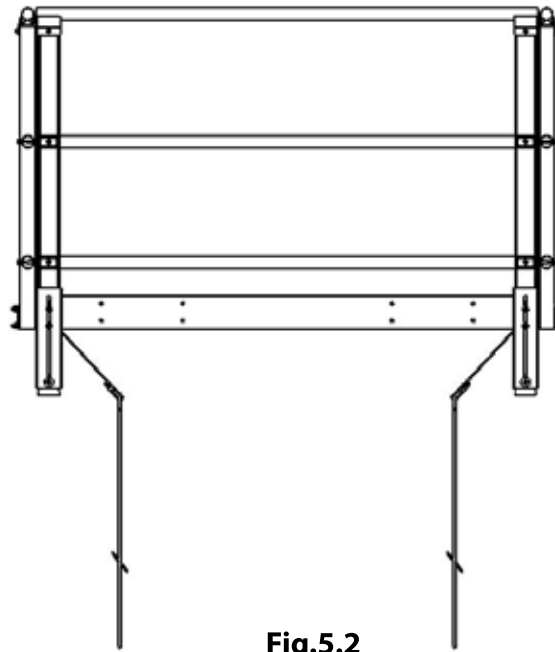
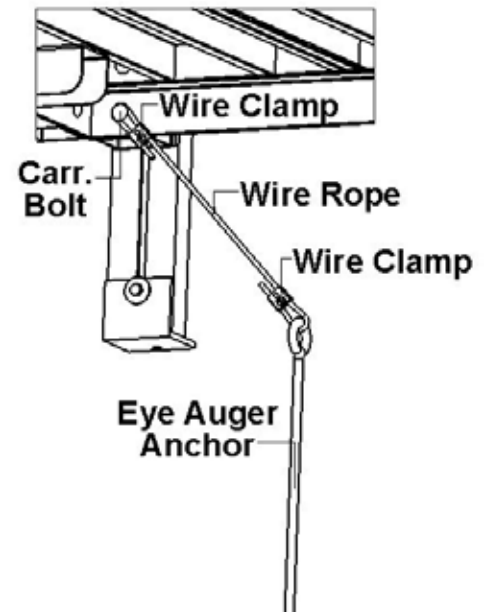

Fig.5.2
Fig.5.3
5.1 Hurricane Tie down Kit (Platforms): The field conditions will determine the location of the tie downs. Generally the anchors should be installed opposite from one another. The PVI Modular Ramp System will have to be fully assembled and installed to determine the exact anchor locations; it may be necessary to temporarily reposition components to install the anchors. For platforms an anchor needs to be installed at each corner, by loosening the lower carriage bolt at the corner post location. Run the wire rope through the wire clamp to form a loop, place the loop around the head of the carriage bolt securing the wire rope between the carriage bolt and platform, cinch wire rope and retighten hardware. Install the auger into the ground as vertical as possible, using a ½" steel rod or similar item to screw the anchor into the ground. Turn anchor into ground until only the eye is exposed (**Fig.5.2**). Run the wire rope through the wire clamp and the eye of the anchor forming a loop through the anchor. Run wire rope back through the wire clamp (**Fig.5.3**). Pull wire rope tight and tighten the screws in the wire clamp. Cut off excess wire. Tape off the ends of the wire rope to ensure the wire will not fray, using electrical tape.